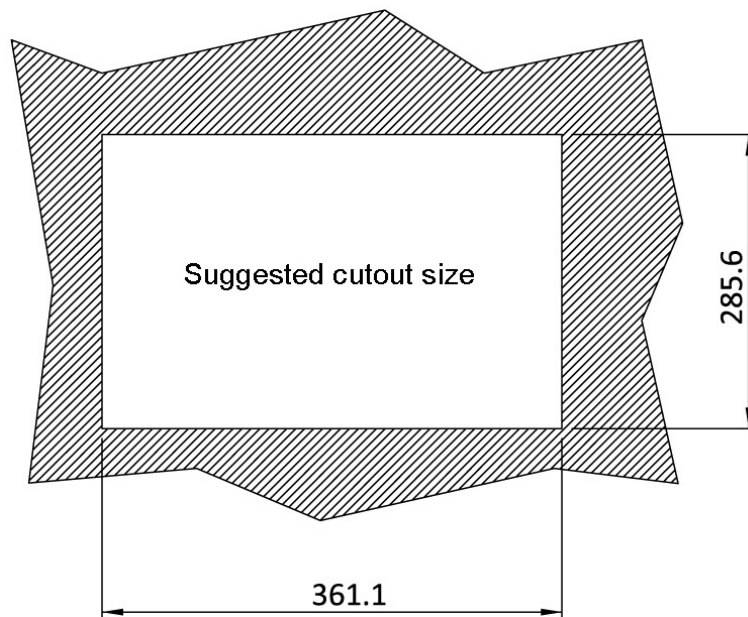
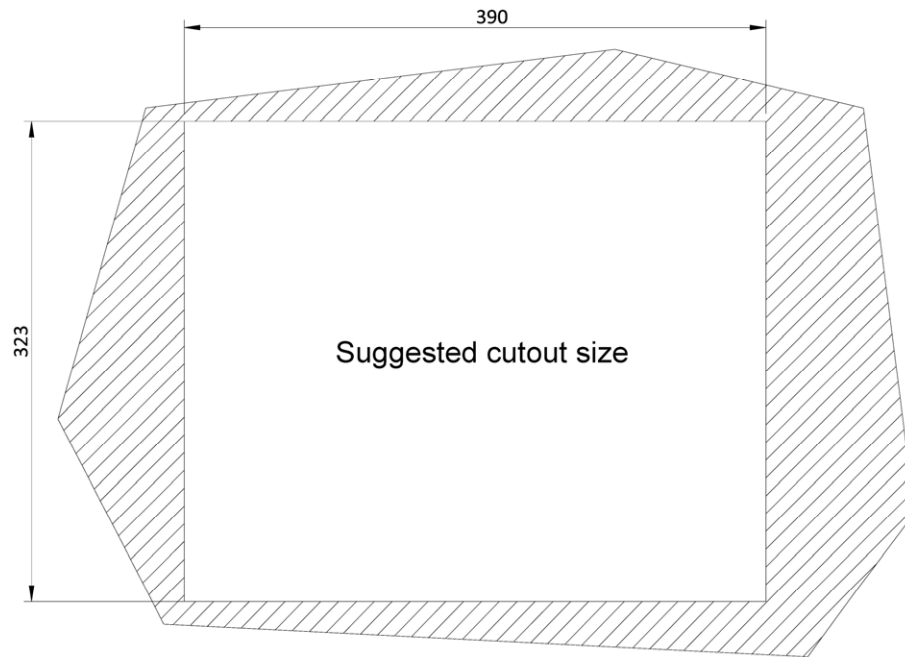
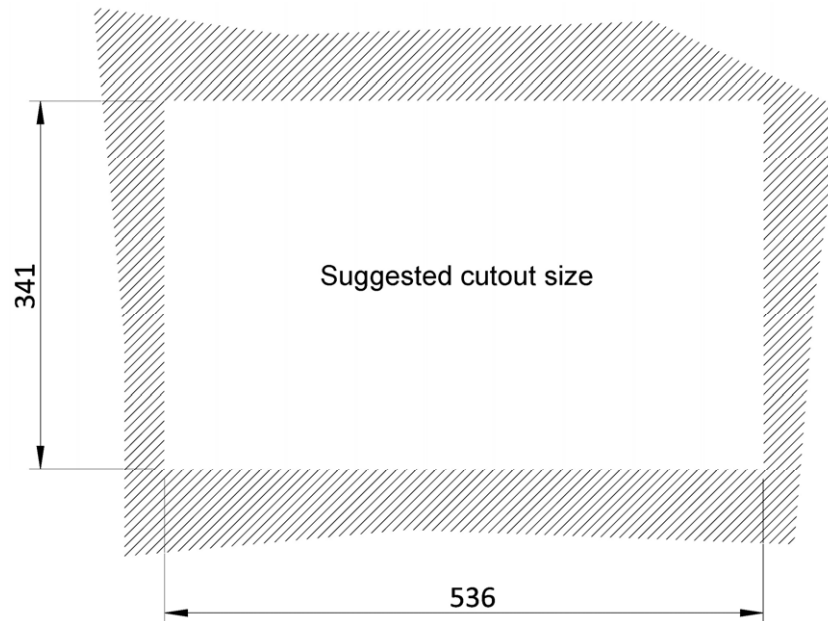
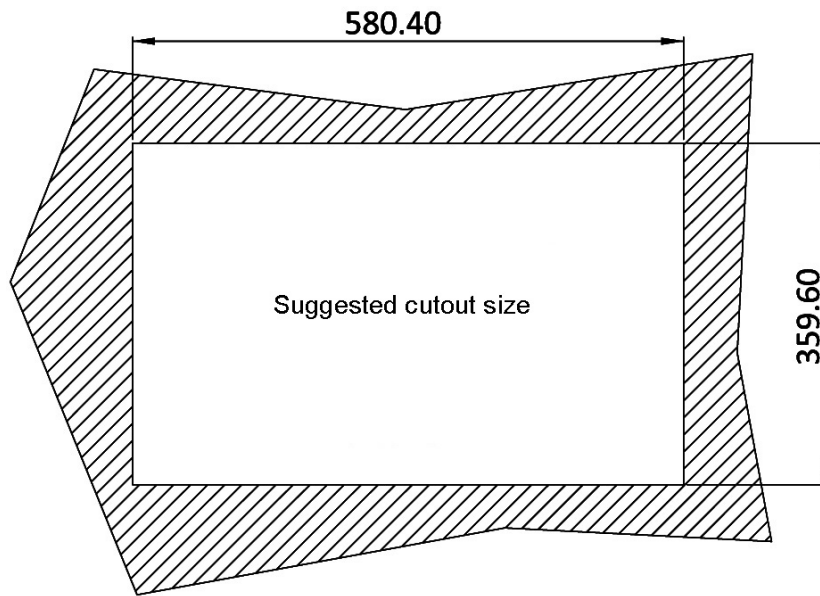

Figure 3-30: PPC-F15A-H81 Panel Cutout Dimensions
Figure 3-31: PPC-F17A-H81 Panel Cutout Dimensions
Figure 3-32: PPC-F22A-H81 Panel Cutout Dimensions
Figure 3-33: PPC-F24A-H81 Panel Cutout Dimensions
Step 15: Cut out a section of the panel that corresponds to the rear panel dimensions of the PPC-FxxA-H81. The recommended cutout sizes are shown below (Figure 3-30, Figure 3-31, Figure 3-32 and Figure 3-33).